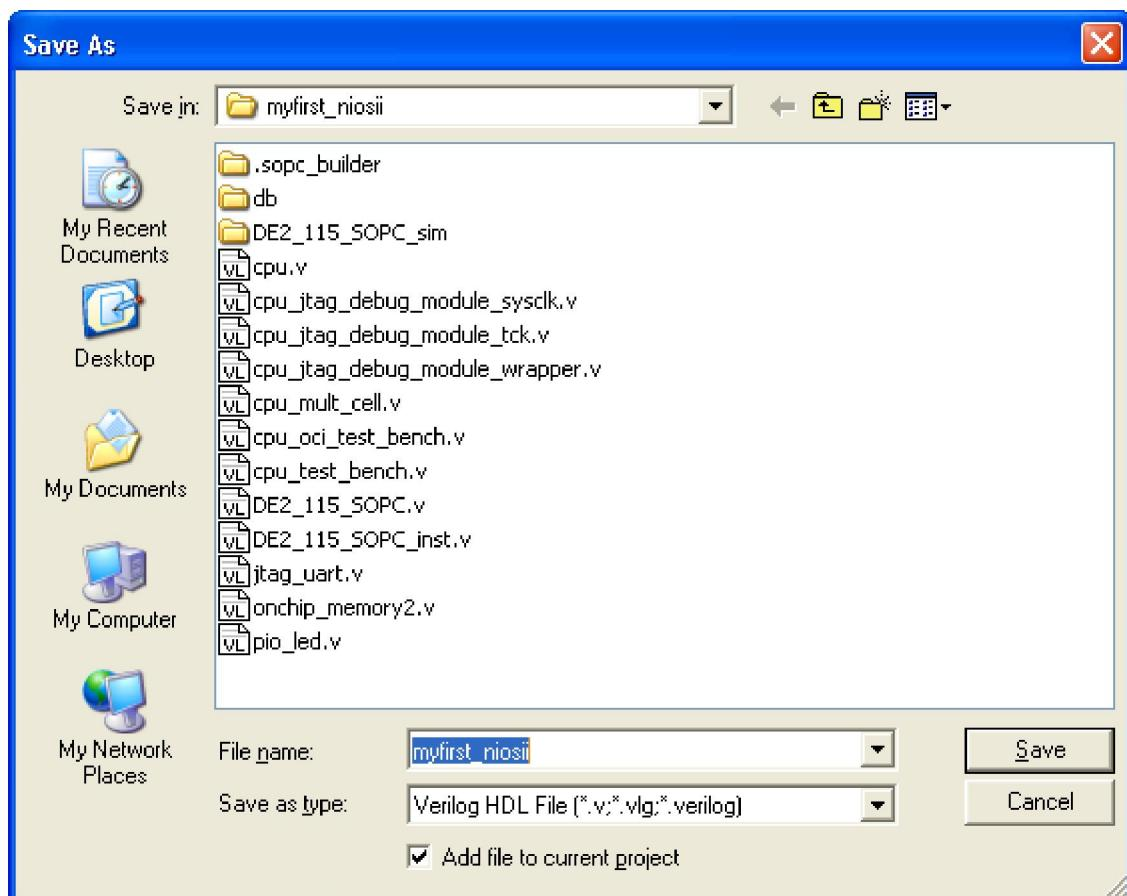

Figure 1-46 Save Verilog file
35. Choose **Save** Icon in the tool bar. There will appear a window as shown in **Figure 1-46**. Click **Save**.